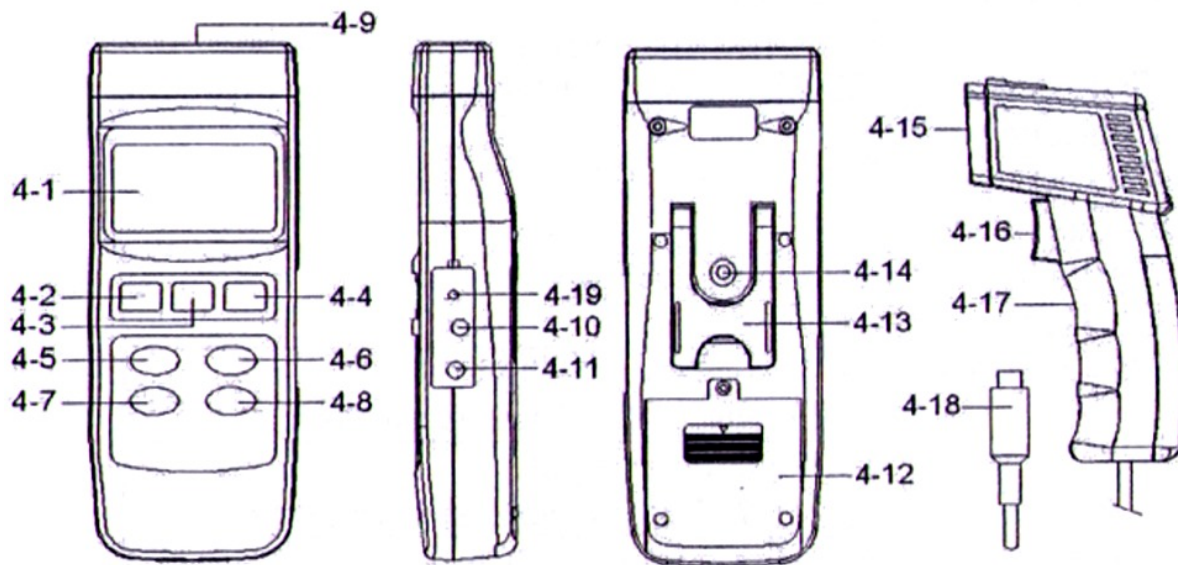

Fig. 1
- 1) Connect the " Probe plug " (4-17, Fig. 1) to the " Input socket " (4-9, Fig. 1).
- 2) Switch ON the meter by pressing the " Power button " (4-2, Fig. 1), the display will show zero value both for RGB unit.
- 3) Use the hand to hold " Probe handle " (4-17, Fig. 1). Contact the " Color sensor head " (4-15, Fig. 1) close to the measurement sample firmly.
Press the " TEST button " (4-16 or 4-3, Fig. 1) once, the display will show the symbol " Mesu ", waiting few seconds the display will show R,G,B value. After the R,G,B value present on the LCD, the measuring procedures are finished, the hand can move away from the probe handle.
If intend to get the H,S,L (Hue, Saturation, Luminance) value, just press the " RGB/HSL button " (4-7, Fig. 1) once, the display will show H,S,L value.
For no lighting sample color measurement, when press the " TEST button " (4-16 or 4-3, Fig. 1) once, the " Color sensor head " (4-15, Fig. 1) should turn on the white light.
- b. Press the 'LIGHT ON/OFF button " (4-8, Fig. 1) once.
1) Press the " TEST button " (4-16 or 4-3, Fig. 1) once to check if the " Color sensor head " already switch off the white light.
- 2) Power ON the meter, use the hand to hold " Probe handle " (4-17, Fig. 1). Contact the " Color sensor head " (4-15, Fig. 1) close to the measurement lighting sample firmly.
- 3) Press the " TEST button " (4-16 or 4-3, Fig. 1) once, the display will show the symbol " Mesu ", waiting few seconds the display will show R,G,B value. After the R,G,B value present on the LCD, the measuring procedures are finished, the hand can move away from the probe handle.
If intend to get the H,S,L value, just press the " RGB/HSL button " (4-7, Fig. 1) once, the display will show H,S,L value. Press the " RGB/HSL button " once again, display will return to R,G,B value.
- 1) During the measurement, after the display show R,G,B value (H,G,L value), if press the " REL (Relative) button " (4-6, Fig. 1) once, the display will show zero value with flashing.
- 2) If make the new measurement (same as chapter 5-1), then press the " TEST button " (4-16 or 4-3, Fig. 1) once, the display will show the relative difference color value (new color value deduct the original color value) with flashing.
- 3) Press the " REL (Relative) button " (4-6, Fig. 1) once again, the display will return to normal function.
- 3) Use the hand to hold " Probe handle " (4-17, Fig. 1).
Contact the " Color sensor head " (4-15, Fig. 1) close to the " White color calibration card " firmly.
- 4) Press both the " Function button " (4-4, Fig. 1) and " CAL button " (4-5, Fig. 1) once a while.
The instrument has RS232 PC serial interface via a 3.5 mm terminal (4-10, Fig. 1).
- 2) Slide the " Battery Cover " (4-12, Fig. 1) away from the instrument and remove the battery.
- 1) During make the normal " no lighting sample " color value measurement, if the display value show not normal value (small value), please check when press the " TEST button " if the " Color sensor head " (4-15, Fig. 1) turn on the white light or not , if not, please fix it (refer page 9).
If the meter's circuit system hold (power ON, but the button function can not make operation...), then during the Power On, used a pin tool to push the " Reset button " (4-19, Fig. 1) once a while can fix the problem.